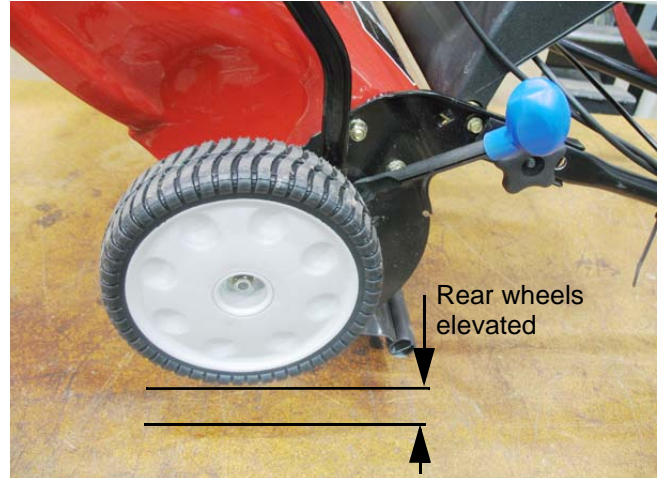

Figure 6.2
- 1c. Support the mower by the back of the deck, in such a way that the rear wheels can be removed. See Figure 6.2.